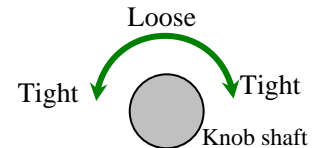

Fig.4
- 2) You can tighten the tension in either direction as shown in fig.4. i.e. turning in one direction will tighten the tension; turning back will loosen the tension. If you continue turning, you will tighten the tension again.